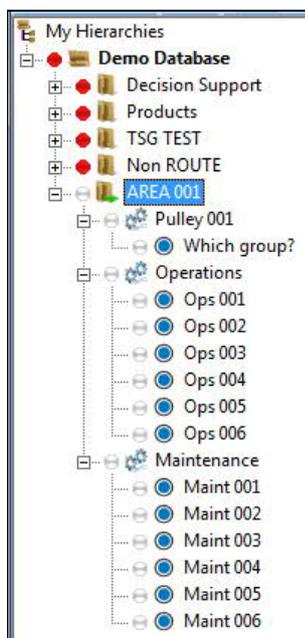

Figure 1. Example hierarchy
Summary of example [Figure 1]:
- A Set will be created to house the location of the equipment being inspected by both Operations and Maintenance. In this example, the set will be "AREA 001". [Figure 1]
2. Under AREA 001, insert three Machines: "Pulley 001", "Operations", and "Maintenance". Refer to Figure 1 above if needed.